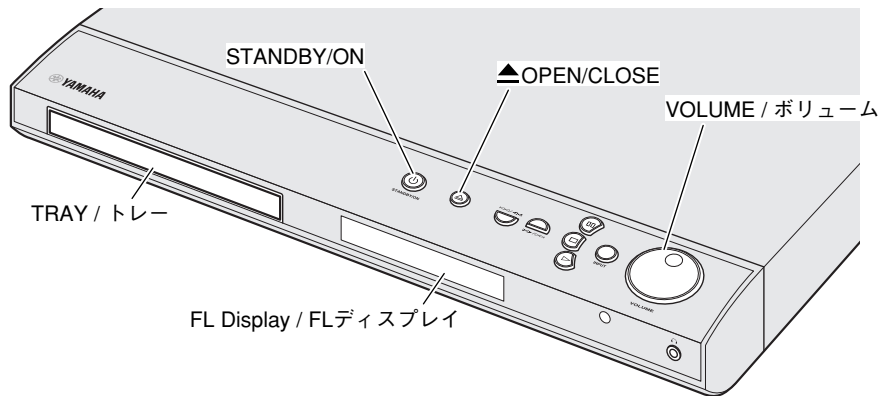

Fig. 1
1. Press the "▲" key to open the tray. (Fig. 1)